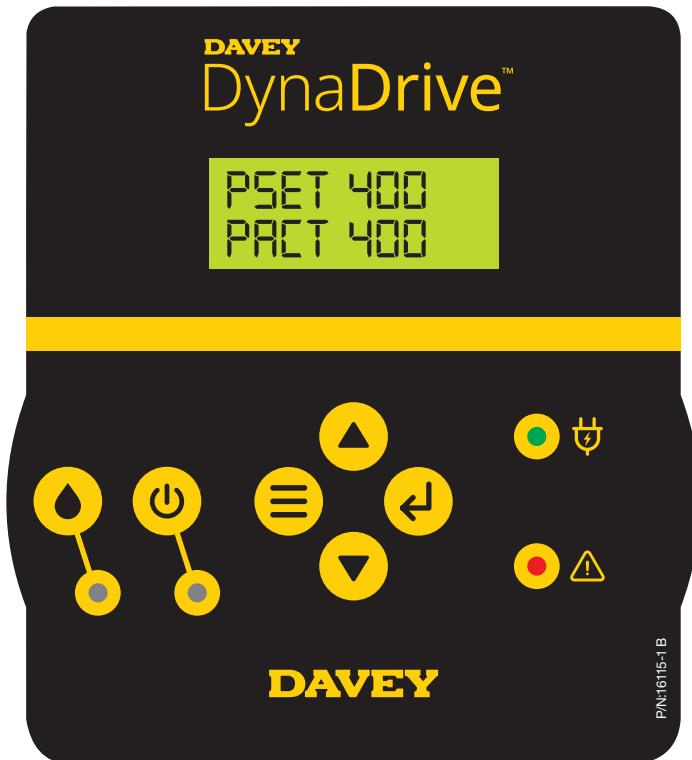

Figure 6.5
- The green  **Automatic LED** will turn off, see figure 6.5;
- The green **Automatic LED** will turn off, see figure 6.5;